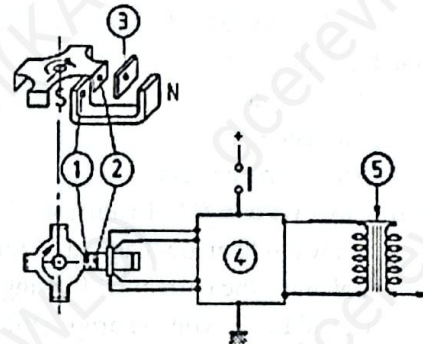

Figure 5
- Give TWO advantages and TWO disadvantages of the system presented in figure 5 above. (2 marks)